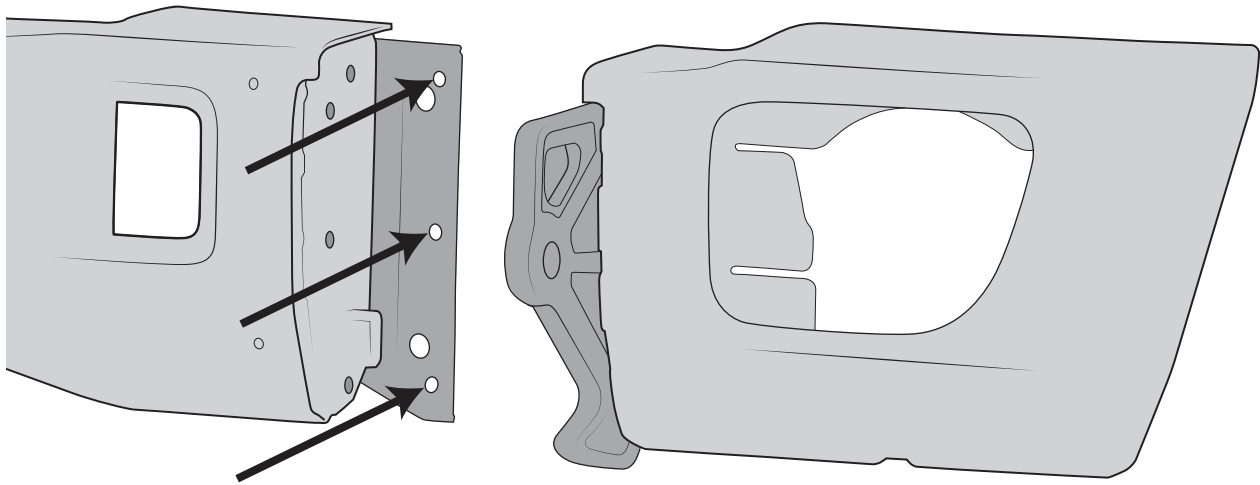

Figure 21
3. Insert three (3) M12 x 35 carriage bolts into the bumper corner and through the holes in the outer frame bracket (fig. 21). Secure with M12 nuts and hand tighten.